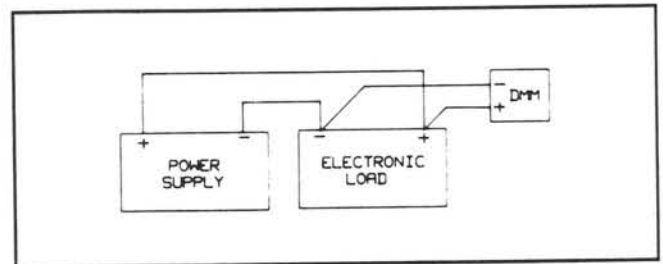

Figure 2-2. Test Setup B
- a. Connect the Electronic Load, power supply (HP 6030A in series with HP 6032A or equivalent), and DMM as shown in Figure 2-2. Take care in making connections so that contact resistance voltage drop will not affect the readings.
- a. Connect the Electronic Load and the power source as shown in Figure 2-2.